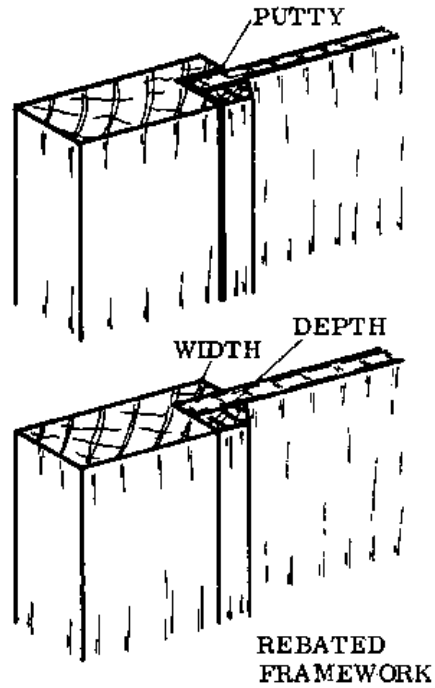

Fig. 3
- **REBATED FRAMEWORK:** When the panel will be fixed after the frame is assembled, a rebated framework is used. A rebate is made in the frame and the panel is secured with beads (Fig. 3).
The width of the rebate is usually $\frac{1}{3}$ rd of the thickness of the frame member, and the depth is usually $\frac{2}{3}$ rd of the thickness of the member (Fig. 3).